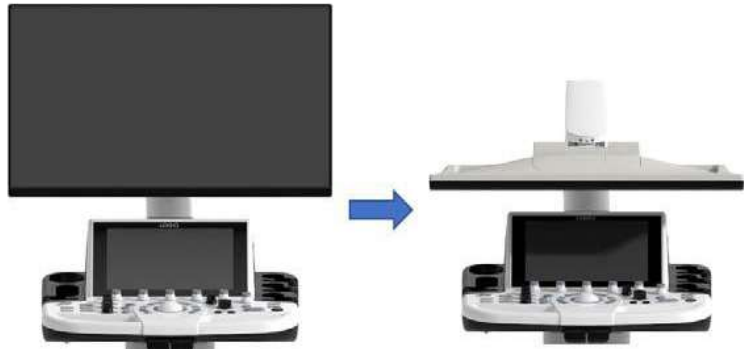

Figure 3-29. Monitor position for moving system
2. Adjust the monitor as shown in Figure 3-29 on page 3-50